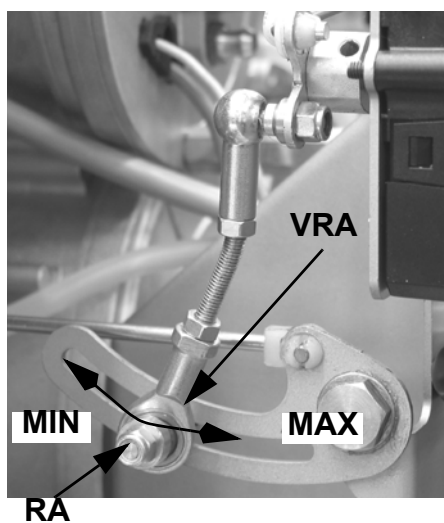

Fig. 17
- 13 The combustant air adjustment must be performed by means of the servocontrol. The servocontrol rotation must be equal to 90° (page 23). The air damper's opening in the high flame stage is imposed by the adjusting cam on Fig. 17. To adjust the air flow rate, slacken the nut **RA** (Fig. 17) and move the lever **VRA** through the slot as shown in Fig. 17, to increase or decrease the air rate, until the desired rate is obtained; lock then the nut **RA** in this position.